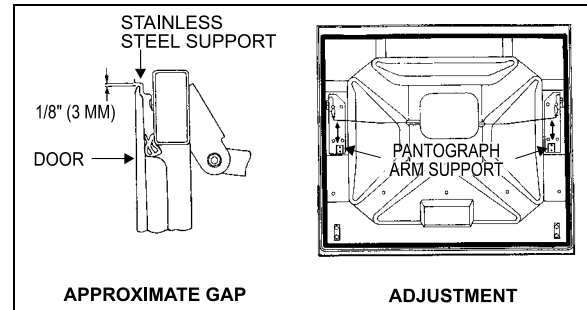

FIGURE 60: BAGGAGE COMPARTMENT DOOR 18064
1. Unscrew and remove both striker pins. Loosen bolts retaining door to pantograph and balance arm supports. With door closed, adjust height so the top of the door fits flush with the adjacent doors. Then, complete tightening the four bolts retaining door to each pantograph arm support. A gap of $1/8$ " (3 mm) between the top of the door and the stainless steel support is given as a guide (Fig. 60).